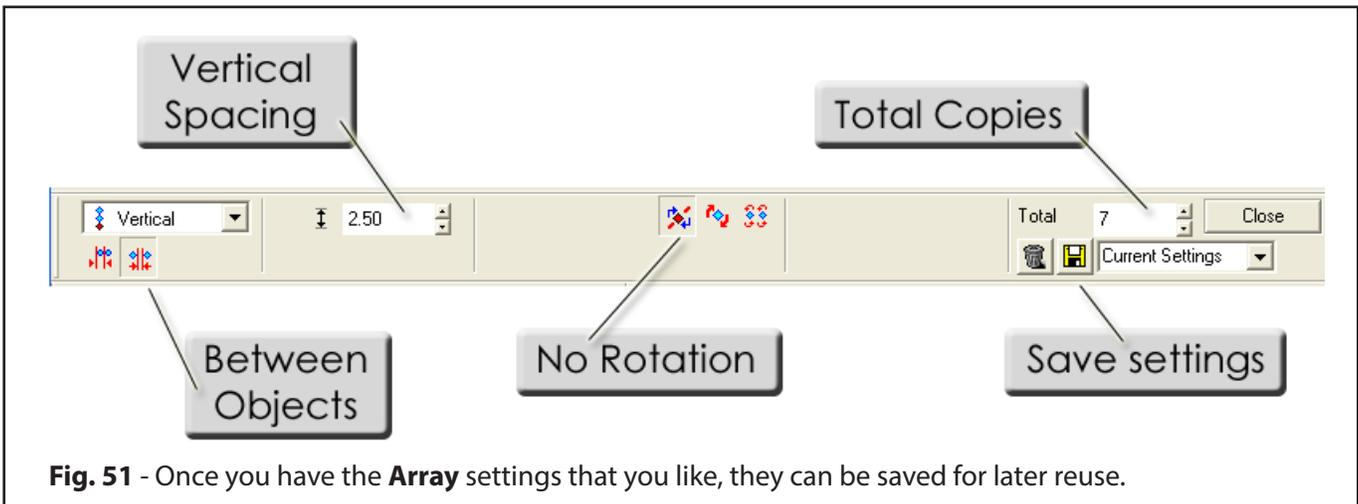

Fig. 51 - Once you have the **Array** settings that you like, they can be saved for later reuse.
10. The SmartBar settings should look like Fig. 51.